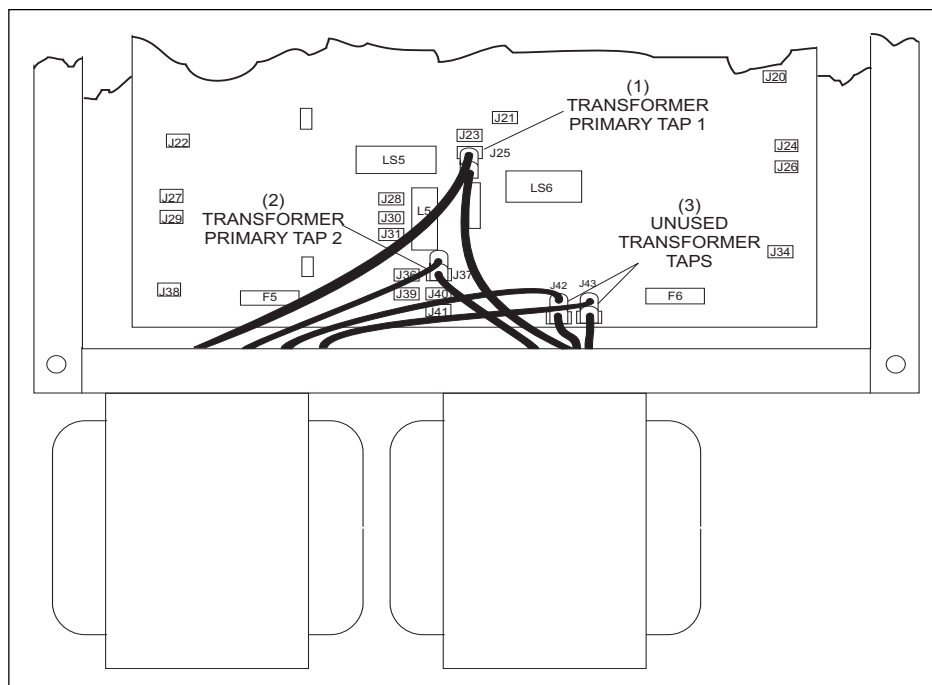

Figure 3-5. Nexgen Voltage Settings
1. The transformers connections to the High Voltage PCB depends on the operating voltage of the pinsetter. Reference *Figure 3-5* & *Table 1*.